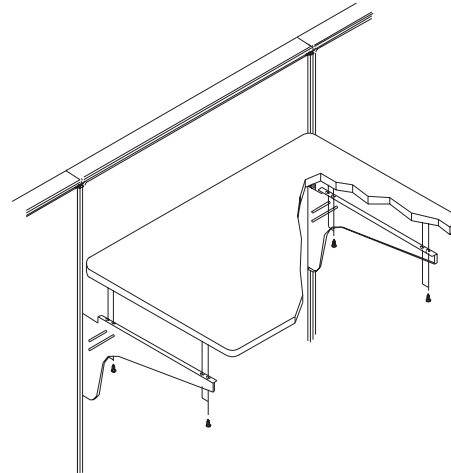

FIG. 2
8. Set the worksurface on the cantilever brackets and line up the worksurface pilot holes with the slots on the cantilever brackets. Secure the worksurface to the brackets using (2) #14 x 3/4" screws in each bracket (Figure 2).